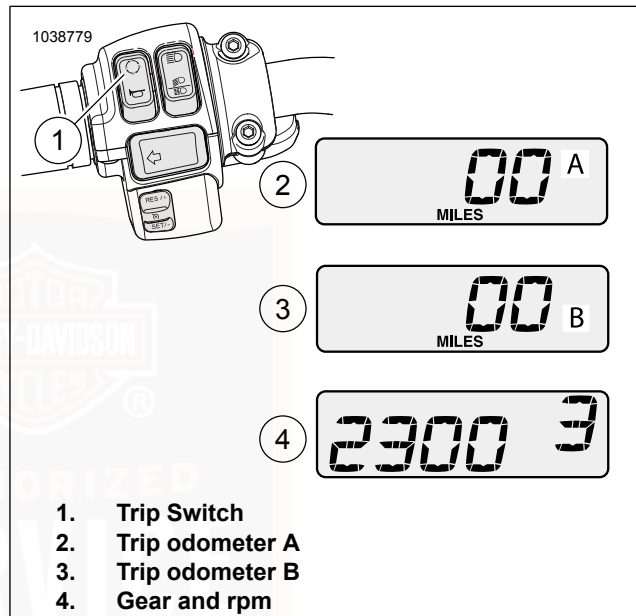

Figure 28. Trip Odometers, Tachometer, and Gear Selection
See Figure 28. To check mileage or to reset trip odometers, the OFF/RUN switch must be in the RUN position. Press and release the trip switch (1) until the desired trip odometer register, A (2) or B (3) is displayed. An A or B on the right of the display window identifies the trip odometer.
See Figure 28. Press and release the trip switch to cycle through the odometer window displays. The odometer shows the engine speed in revolutions per minute (rpm).